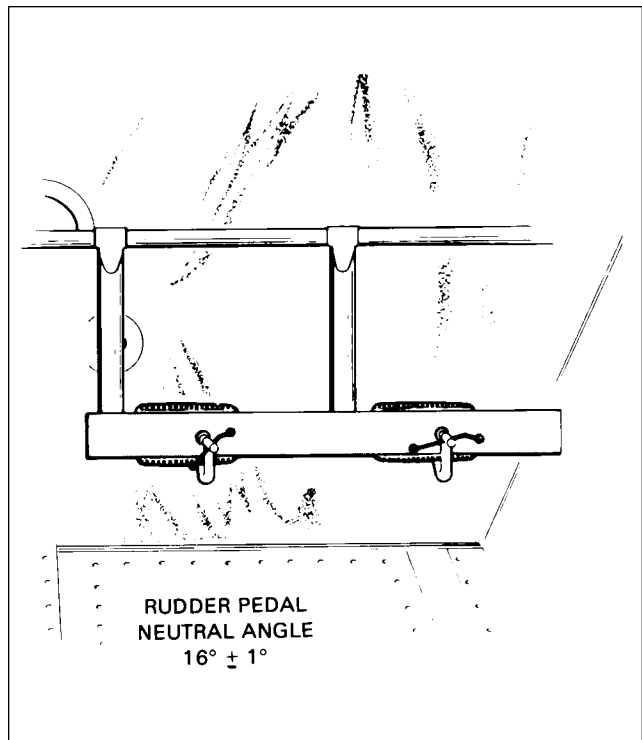

Figure 27-10. Clamping Rudder Pedals
- C. Clamp the rudder pedals to align in a lateral position as shown in Figure 27-10.